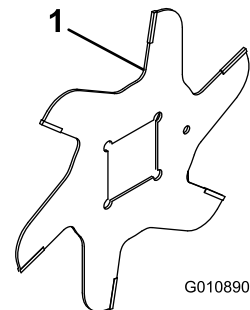

Figure 14
1. Assemble a reel blade (Figure 14).
4. Install the next blade clockwise so that the index reference hole (Figure 14) is not aligned with the first blade hole by one flat of the shaft.